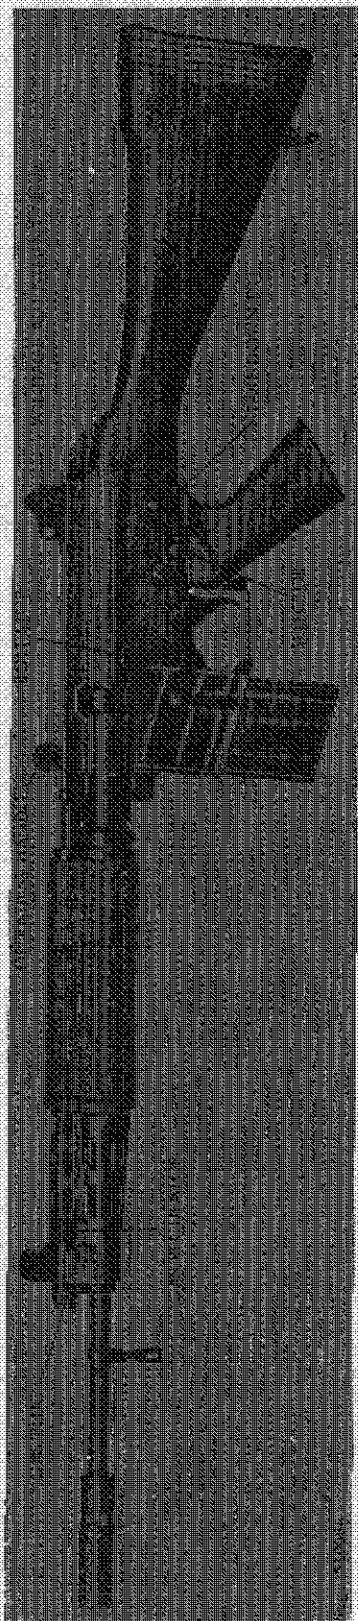
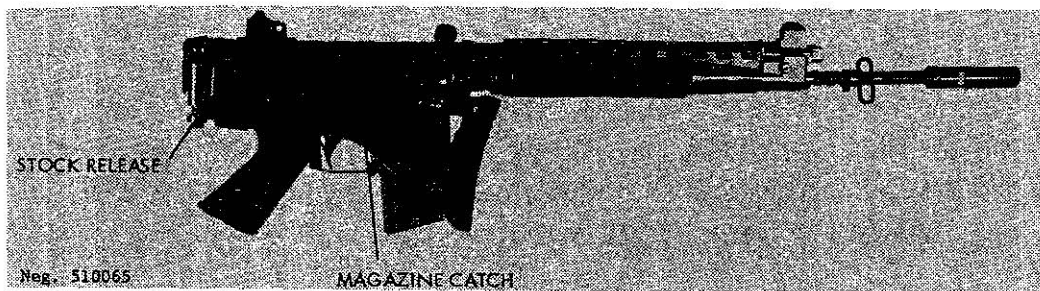

Figure 65. Belgium C.A.L. assault rifle.
Figure 66. C.A.L. with folding metal butt stock.
a. The 5.56-mm C.A.L. assault rifle (fig 65) was developed by the Fabrique Nationale Company of Belgium as a weapon to supplement their FN/FAL rifle (paragraph 126). Although the initials C.A.L. stand for Carabine Automatique Legere/Light Automatic Carbine, this weapon is considered an assault rifle by US standards. The C.A.L. can be fitted with either a conventional or a folding metal butt stock (fig 66).
a. Remove the magazine by pressing the magazine catch (fig 66); the magazine will eject. Load the magazine by placing a cartridge on the magazine follower and press the cartridge down until it rolls sideways under one of the feed lips. Repeat until the magazine is full (20 rounds).
b. Insert the loaded magazine into the receiver until the magazine catch snaps into place and retains the magazine. Insure that the "A" on the gas plug faces up (fig 65).
c. Rotate the selector (fig 65) to "S" (safe), pull the operating handle fully rearward, and release it. CAUTION: The rifle is now loaded and ready to fire. To fire, place the selector on the desired setting: 1 for semiautomatic fire, 3 for three-shot burst automatic fire, or A for fully automatic fire. Aim (using a normal sight picture), and squeeze the trigger. The weapon will fire according to the chosen selector setting. The bolt will remain closed between shots and will open when the last round is fired.
d. When the bolt is caught to the rear after the last round is fired, it can be closed by (1) removing the magazine (a above) and pulling the operating handle (fig 65) rearward and releasing it; or (2) pressing in on the bolt stop (fig 65).
e. Clear the C.A.L. by setting the selector on safe, removing the magazine (a above), and, while holding the bottom of the bolt stop (fig 65) inward, pull the operating handle rearward and release it; the bolt will be caught to the rear by the bolt stop. Inspect to insure that no cartridges are present in the barrel or receiver. Press the top of the bolt stop inward to release the bolt, rotate the selector off safe, press the trigger, and then rotate the selector back to safe. Insert the magazine.
f. To adjust the gas regulator (fig 65), rotate the regulator to the left until the oblong gas vent, located behind the front sight hose, is uncovered, then close the regulator two clicks. Load the rifle (with a magazine containing one cartridge) and fire. If the bolt is not caught to the rear, close the regulator an additional click and fire another single round. Repeat until the bolt is caught to the rear, then close one additional click. If the rifle becomes fouled during use, close the regulator one click at a time until reliable functioning occurs.
g. Prior to firing rifle grenades, rotate the gas plug (fig 65) to shut off the gas. Press in on the plunger and rotate the plug so that the letter "A" on the plug is toward the barrel. With the plug in this position, the rifle must be manually reloaded for each shot. To again fire normally, press in the lock and rotate the gas plug until the "A" is upward.
h. The front sight can be screwed up or down to adjust for elevation. Rotate the sight clockwise (in) to raise the bullet's point of impact. The adjustment drum (fig 65) on the rear sight can be rotated to adjust for windage (lateral) zero. Turning the drum clockwise moves the point of bullet impact to the right.
c. Press in the lock on the gas plug (fig 65), rotate the plug until the letter "A" is to the left, then ease the plug out to remove it. Point the muzzle down and catch the piston assembly as it comes out of its tube.
g. Hold the rifle muzzle up and drop the piston assembly, small end first, into the opening under the front sight. Place the plug (fig 65) into the hole with the large end of the lock toward the barrel, then turn the plug until its stamped letter "A" is up. Depress the lock while turning the plug.